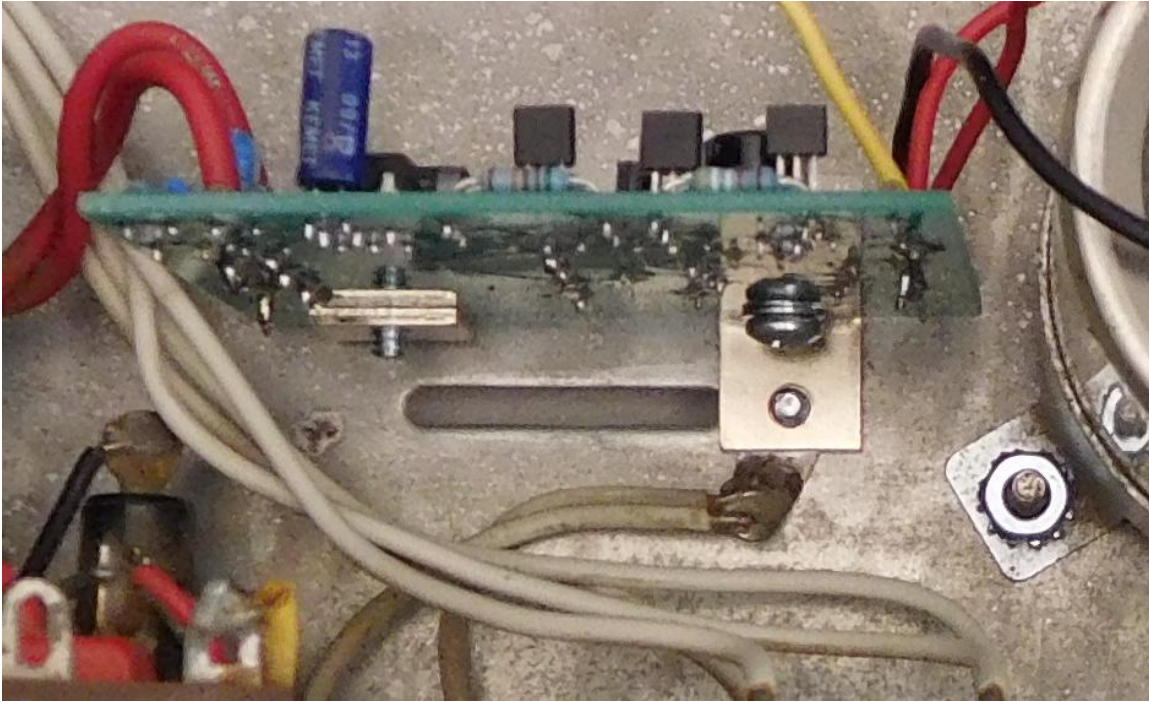

Figure 6-Grounding arrangement for speaker common connections on the SCA-80
3. Do this step if you have an SCA80. Insert and tighten a 6-32x1/4" sems screw from the bottom of the chassis, through the lug with the two wires that connect to the speaker terminal commons, into the threaded PCB support bracket farthest from the transformer, see Figure 6.